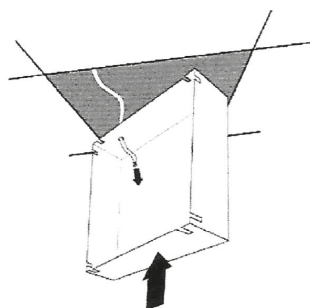

Fig. 2
- Pass the cover through the false ceiling diagonally or fold it (Fig. 2).